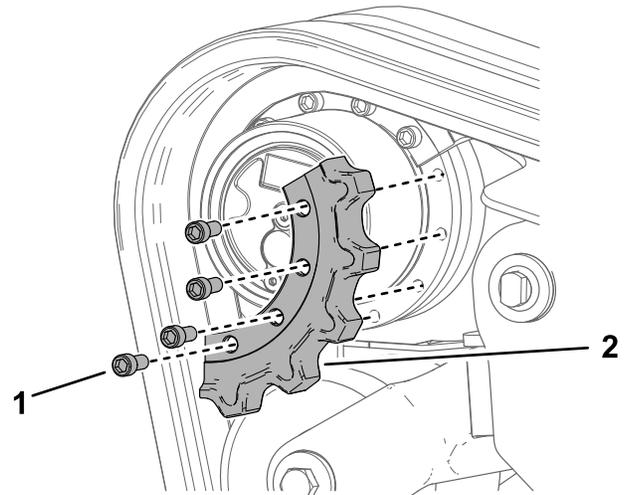

Figure 75
1. Screw (4)
12. Remove the sprocket segment (Figure 75).
7. Apply thread-locking compound to the bolts of 1 drive sprocket segment that you removed and install the sprocket segment (Figure 75). Torque the bolts to 247 to 301 N·m (182 to 222 ft-lb).